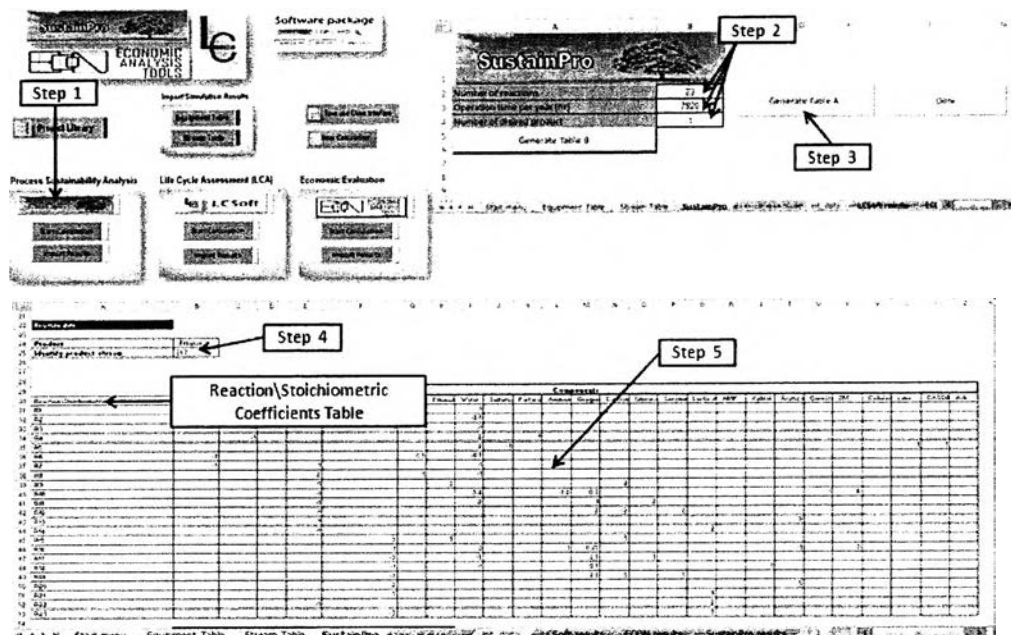

Figure B.10: Steps to perform sustainability analysis (Continued)
Step 1: Click “SustainPro” button in “Start menu” page (Figure B.10), “SustainPro” page will appear.
Step 6: Look for “Reaction/Reactor” table (Figure B.10). The figure below is the example of entering reaction data in “Reaction/Reactor” table.